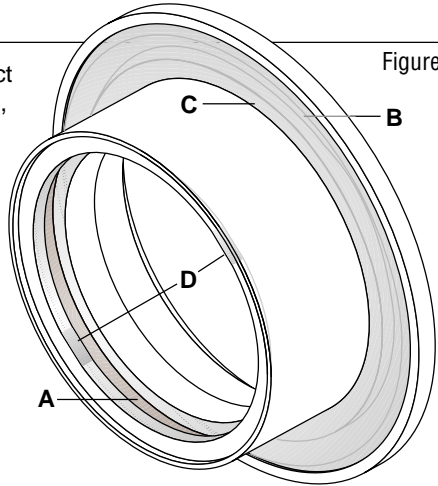

Figure 4
3.4 Inner Gland (1B) (Figure 4)